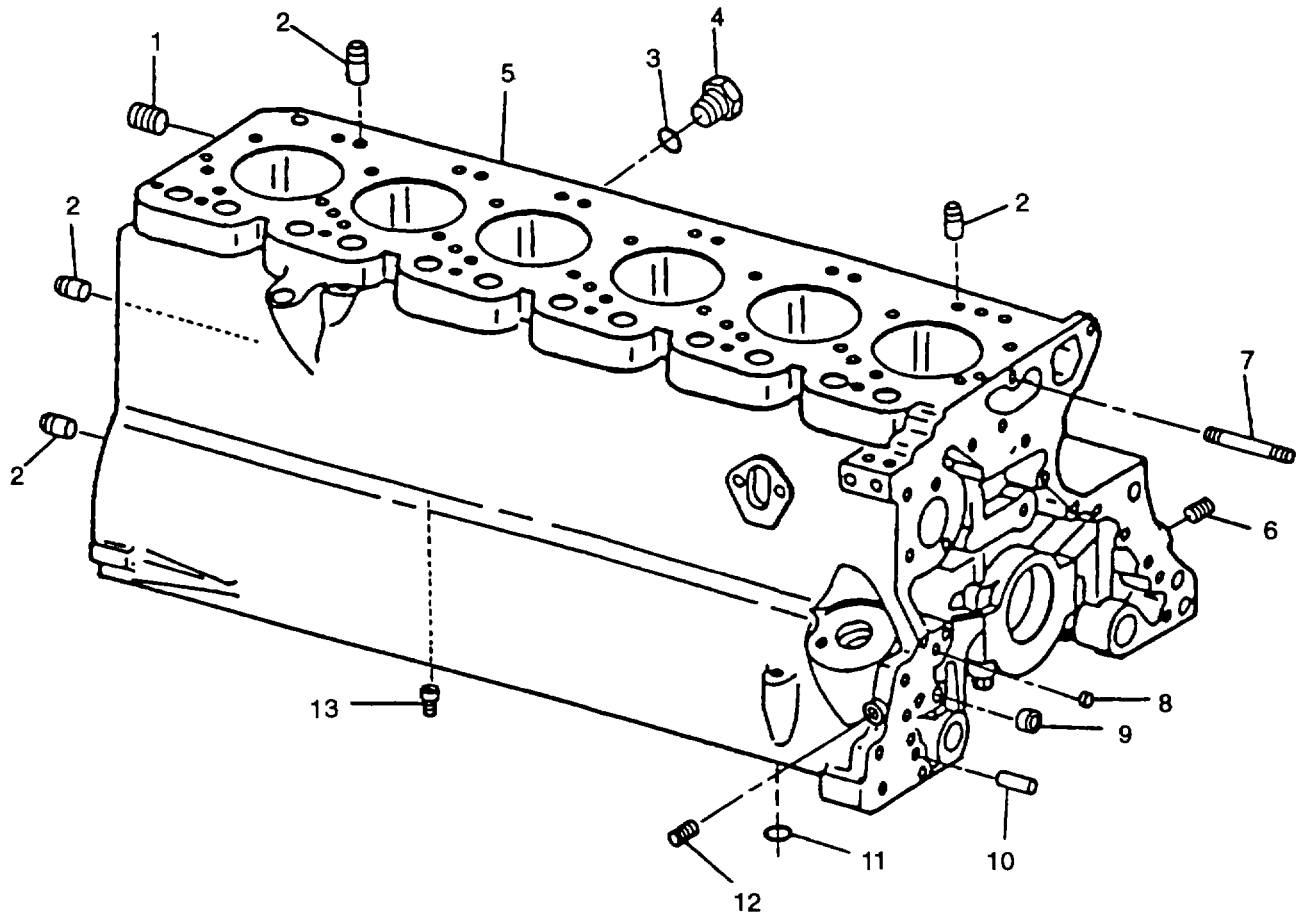

FIGURE 3-146. Engine Block
- i. Remove piston cooling nozzles (13, FIGURE 3-146).
- j. Remove water galley plugs, refer to FIGURE 3-146.
- k. If necessary to place block in hot tank, remove oil galley plugs, refer to FIGURE 3-146.